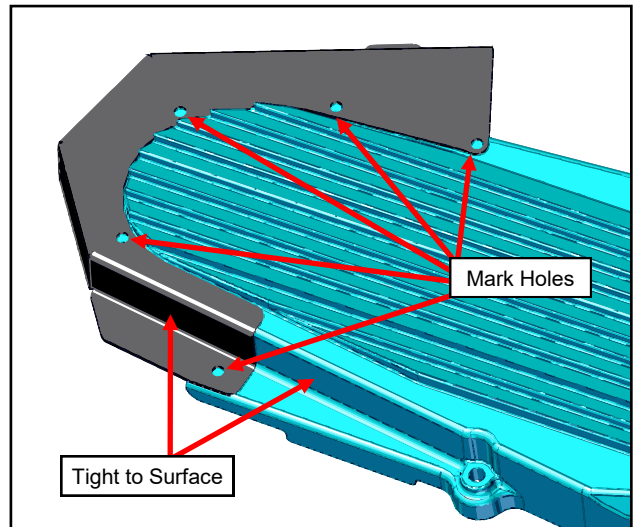

Fig. 3.15 (Mark Rivet Holes Using New Cover Extension)
3.15 Place the belt cover extension onto the trimmed belt cover and mark the rivet hole locations. See figure 3.15. The bottom surface shown should be tight to the surface of the belt cover. Drill the (5) holes using a 3/16" drill bit.